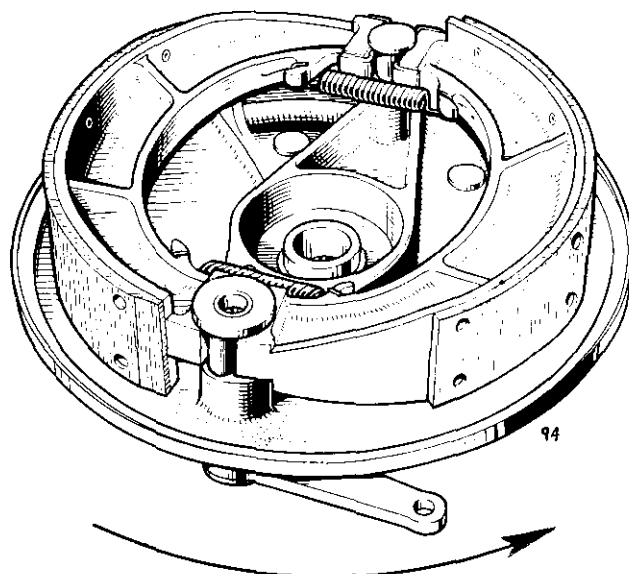

Fig. F6. Correct assembly of brake shoes onto front anchor plate. Arrow indicates direction of rotation
**Note.**—When replacing the brake shoes, note that the leading and trailing brake shoes are not interchangeable in either the front or rear brake and ensure that they are in their correct relative positions as shown in Fig. F6.